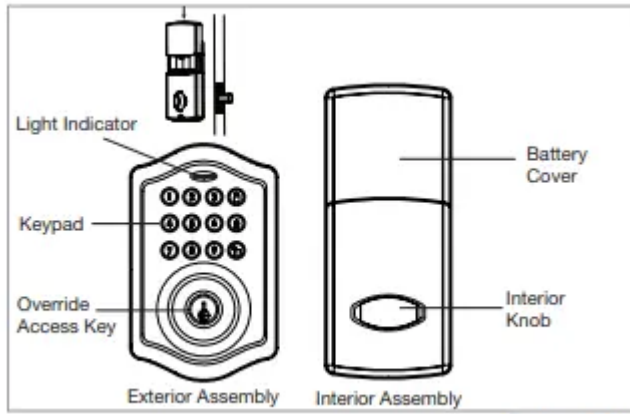

Figure 5a-5b
a. Insert 4 AA high quality Alkaline batteries into the Battery Compartment in the direction noted +/- on the Compartment. The Lock will beep 2 times, the key pad will illuminate blue, and the Honeywell button will flash green twice to signify that it has received power (Figure 5a).